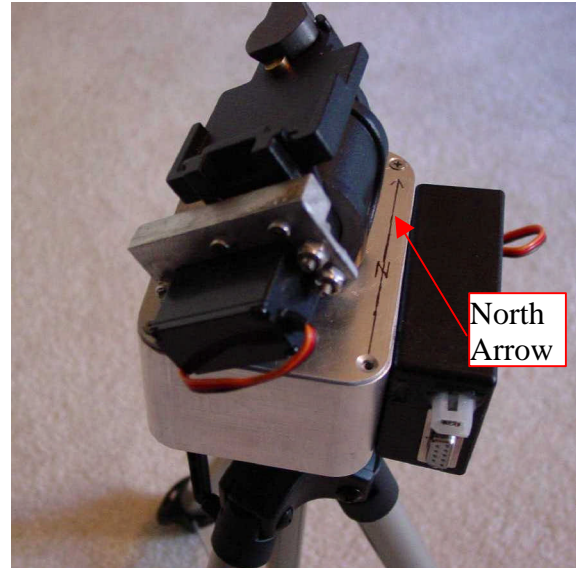

Figure 15. Arrow for orienting the tripod
- Orient the tripod so that the arrow on the tracking assembly (see Figure 15) is pointed to GEOGRAPHIC North.